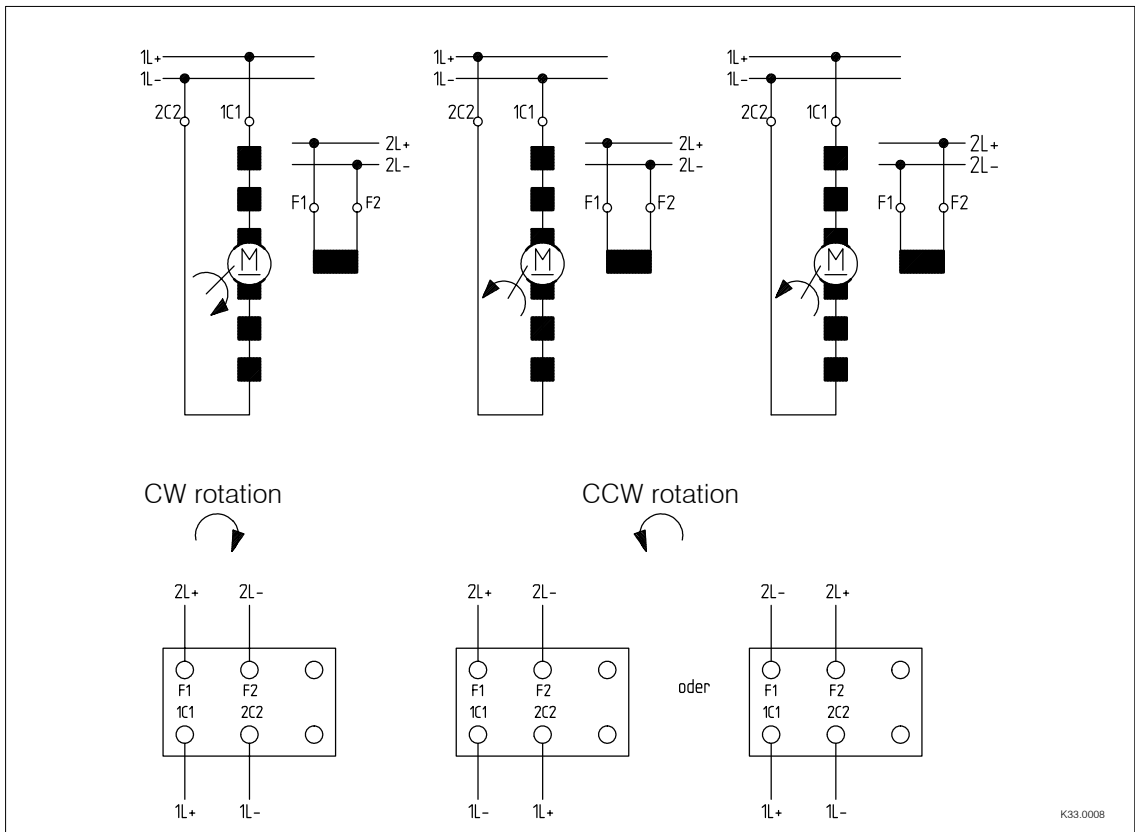
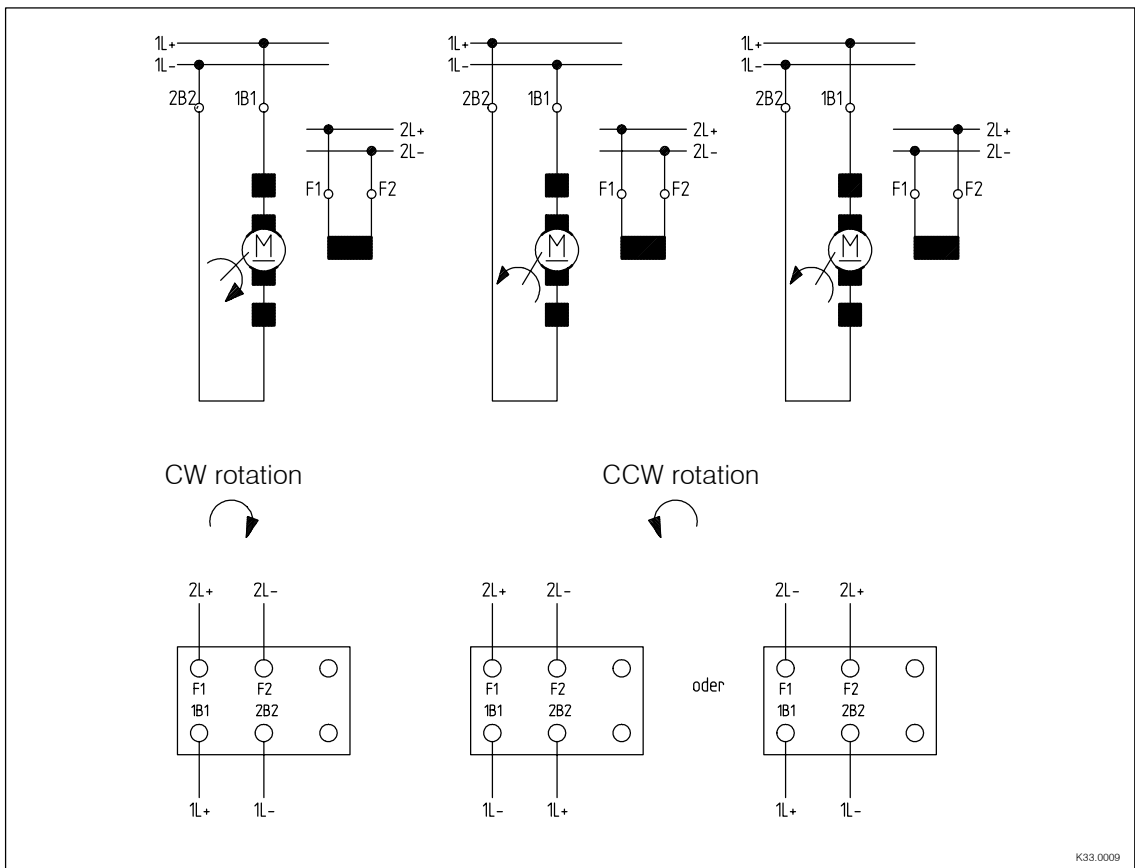

Fig. 2: Motor connecting diagram for the motor types MGFRK, MGERK, MGSRK, MGFQK, MGEQK, MGSQK (compensated design with commutating pole winding)
Fig. 3: Motor connecting diagram for the motor types MGFQU, MGEQU, MGSQU (uncompensated design with commutating pole winding)
- Make electrical connection according to the connecting diagram which is attached to every motor. The connecting diagrams for the standard factory design are shown in fig. 2 and fig. 3.